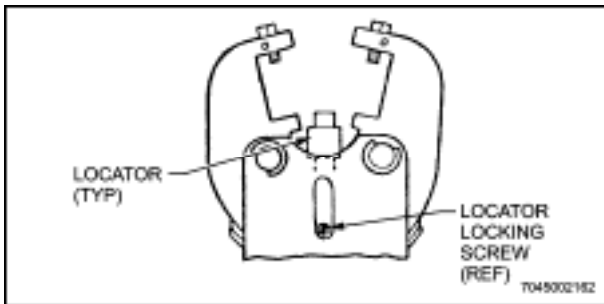

Figure 12-56 Locator and Locking Screw
- a. Having selected the proper locator die set for the selection chart (see Table 12-12), loosen locator locking screw on tool (see Figure 12-56).